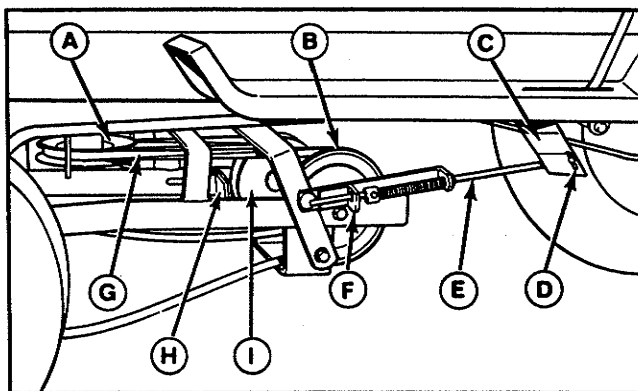

Figure 5. Install PTO Rod & Belt
6. Slip the belt (G, figure 5) onto the PTO pulley (A) as shown in figure 5. Loosen the PTO pulley belt stops if necessary. If more belt slack is needed, loosen the capscrew and move the brake pad (H) forward to allow forward movement of the flat idler pulley (I). Refer to figure 26 (page 15) for the belt pattern.
7. Attach the PTO rod (E, figure 5) to the tractor PTO lever (C) (in hole marked "ST") with the spring clip (D).
2. Disconnect the PTO rod from the tractor PTO lever by removing one spring clip (D, figure 5). Store the spring clip in the PTO rod.
3. Remove belt from the tractor PTO pulley (G, figure 5). Loosen belt stops if necessary.
- Points on PTO rod that contact PTO rod guide (see figure 5);